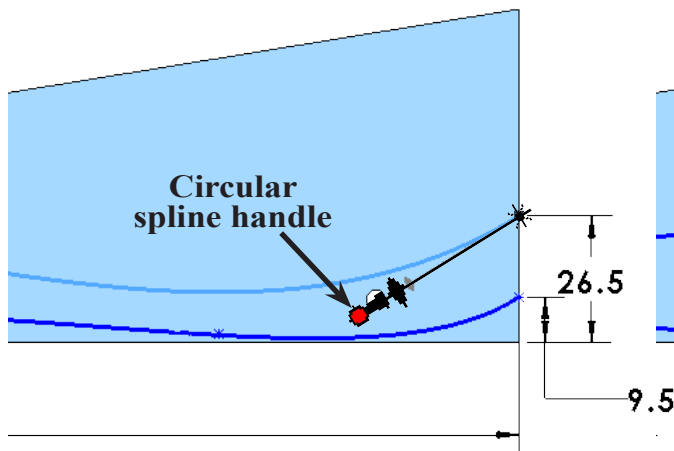
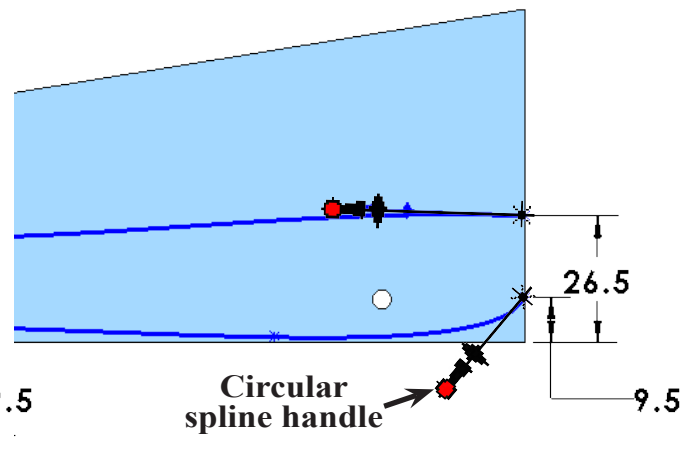

Fig. 12
Fig. 13
Step 11. Click the top spline to select it. Grab the **Circular Spline handle**  (small gray dot) of the first spline point, **Fig. 12** and pull up to straighten the spline, **Fig. 13**.
Step 12. Click the bottom spline to select it, **Fig. 13**. Grab the **Circular Spline handle**  (small gray dot) of the first spline point and pull to the rear to adjust spline, **Fig. 14**. Very important to keep the spline inside the Blank, **Fig. 14**.